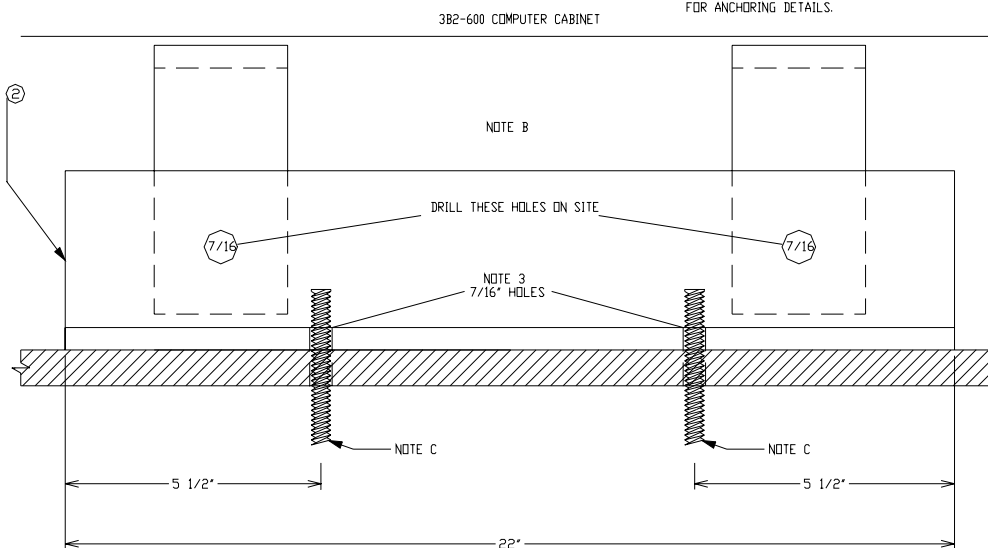

FIG 3. PLACEMENT
3. CUT ONE 22 INCH SECTION FROM L1 701 ALUMINUM ANGLE AND DRILL TWO HOLES 5 1/2 INCHES FROM ENDS AND CENTERED FRONT TO BACK AS DESCRIBED IN FIG 3.